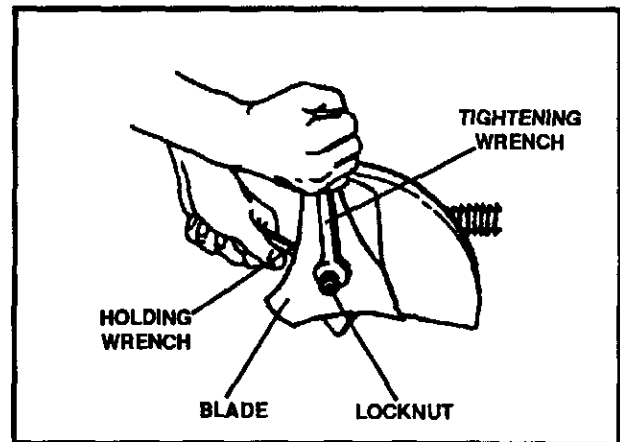

FIG. 14
CAUTION: WHEN REMOVING OR TIGHTENING THE BLADE NUT, ALWAYS USE THE METHOD SHOWN IN FIGURE 14. THE HOLDING WRENCH MUST ALWAYS BE POSITIONED ON THE NUT BEHIND THE CUTTING BLADE.
- Remove the 1/2-20 locknut (See Fig. 14) securing the blade to the drive shaft.